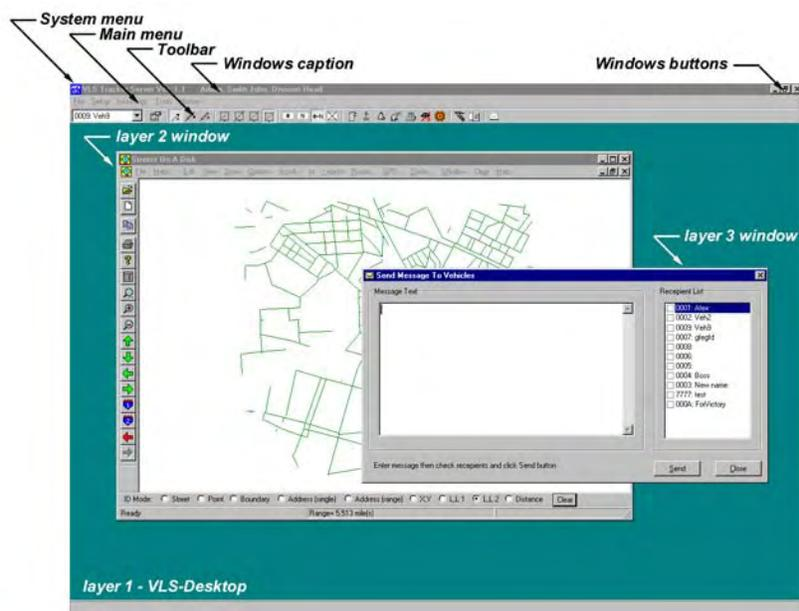

Fig. 34 VLS-Tracker desktop
The main *VLS-Tracker* window is a parent for all windows opened including *Streets On A Disk*. The main window is displayed after the program starts. The window is shown in Fig. 34 and described in detail below.
The VLS-Tracker desktop window is shown in Fig. 34. The window is layer 1. It has the following controls:
2. If GIS is already open and not captured by *VLS-Tracker*, then it is placed in layer 2. (see Fig. 34)
3. If there is no a GIS open, then the GIS program is opened and positioned in layer 2. (see Fig. 34.).